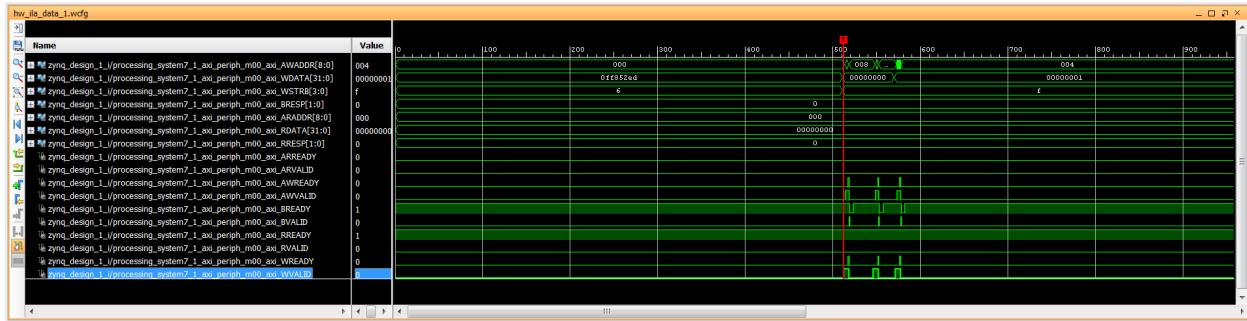

Figure 76: Trigger Mark goes to 1
Note: The trigger mark occurs at the first occurrence of the `WVALID` signal going to a 1 (Figure 76).
2. From the Getting Started page, select **New Project** (Figure 76).